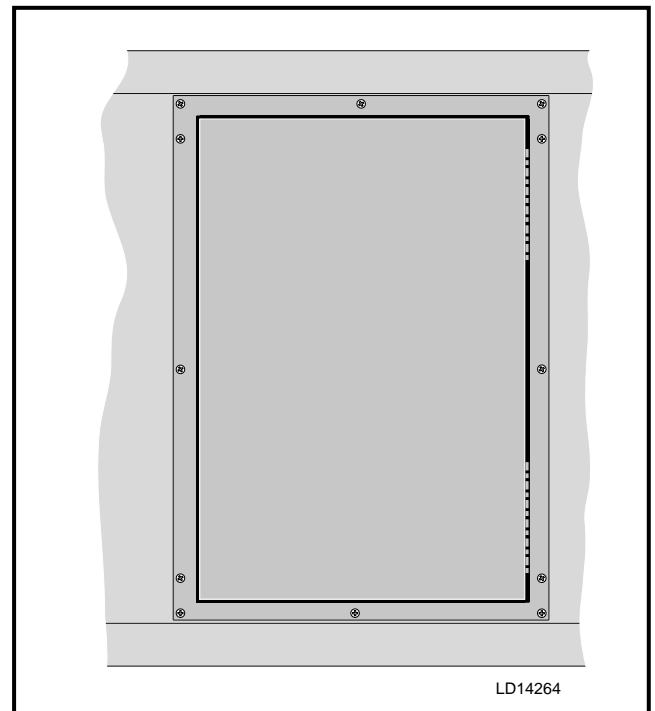

FIG. 5-101 – DOOR REPLACEMENT
14. Install new door assembly with door closed and latched with spacers in place (*see Fig. 5-101*).